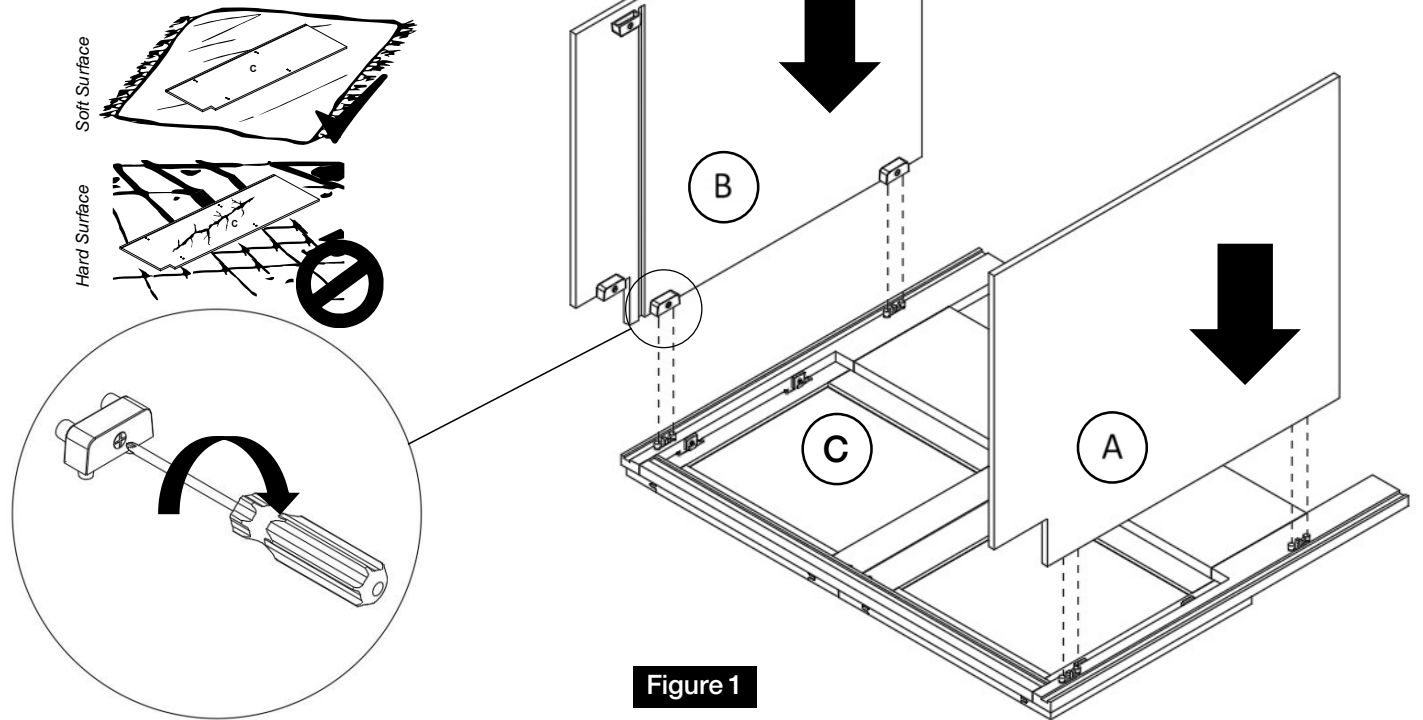

Figure 1
Assemble the Side Panels (A,B) onto the Frame (C) by connecting the male and female cam locks and using a screwdriver to turn the lock clockwise. (Figure 1)